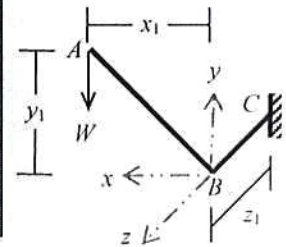

Fig. 2(b)
3. In member BC of the monkey's hand ABC [Fig. 2(b)] loaded as described in Question 2, calculate the